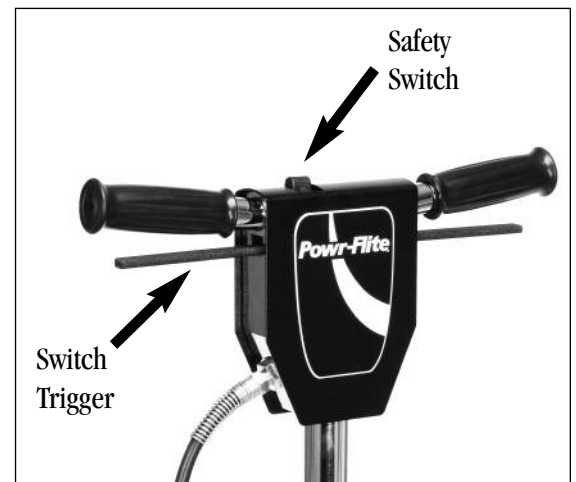

Fig 4
- Plug the machine in as directed and lower the handle to the desired operating height. Push the safety switch forward (**Fig 4**) and squeeze the switch triggers beneath the handle grips. This activates the motor and starts the pad driver, brush or attachment in operation. Each time you release the triggers the safety switch will reset. You will need to follow the direction above to restart the machine. **CAUTION: When leaving the machine unattended, disconnect the wall plug and return the handle to the “locked” upright position to prevent accidental starting.**